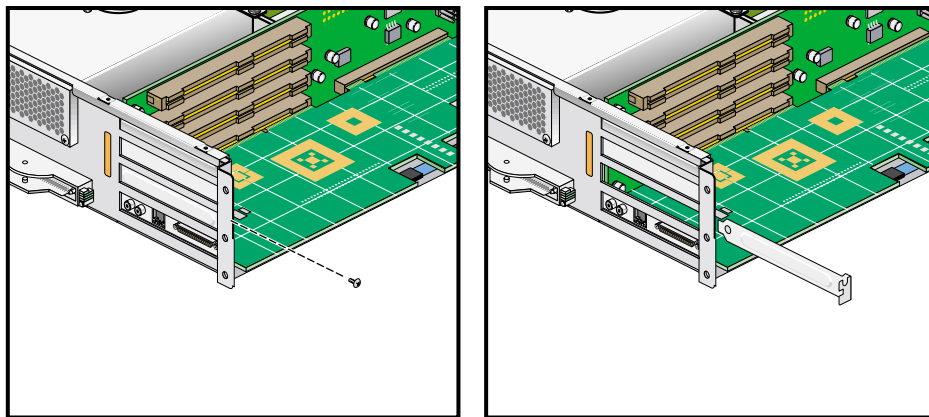

Figure 4-6 Removing the Blanking Plate
10. If a blanking plate covers the slot that is needed for the installation, remove the retaining screw, as shown in Figure 4-6, and the blanking plate.